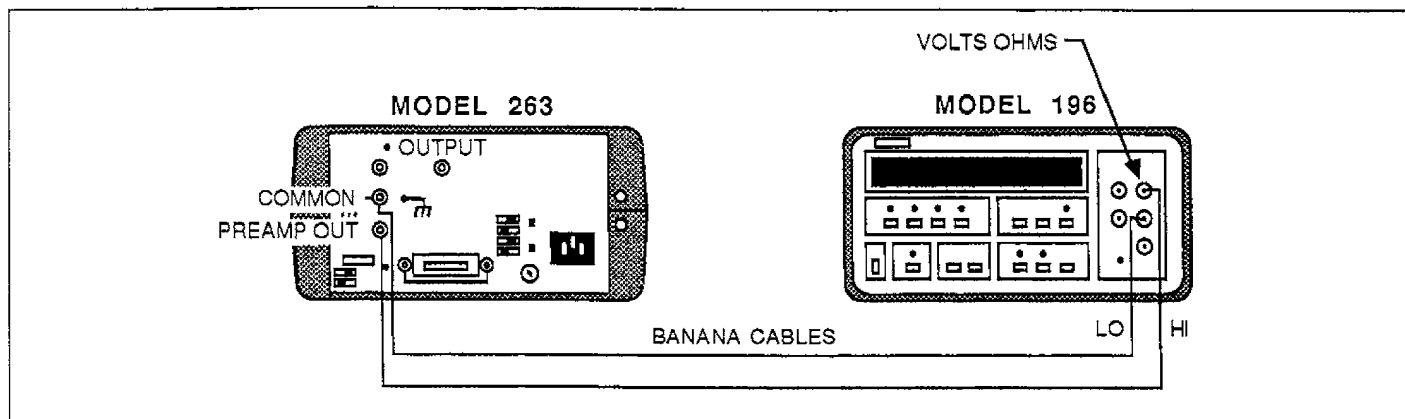

Figure 8-4. High Ohms Calibration and Voltage Offset Adjust
1. Disconnect the triax cable from the 263 OUTPUT and connect the Model 263 PREAMP OUT to the DMM as shown in Figure 8-4.